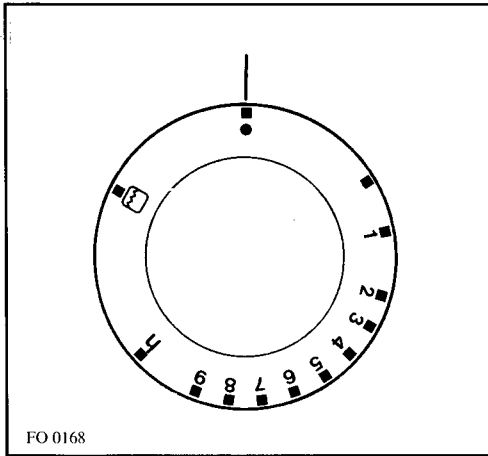

Fig. 2
2. Depress the oven control knob and turn it anti-clockwise to position (Fig. 2). At the same time as depressing the control knob, firmly press the push-button marked ignition, until the oven is lit (this can take 10-15 seconds).